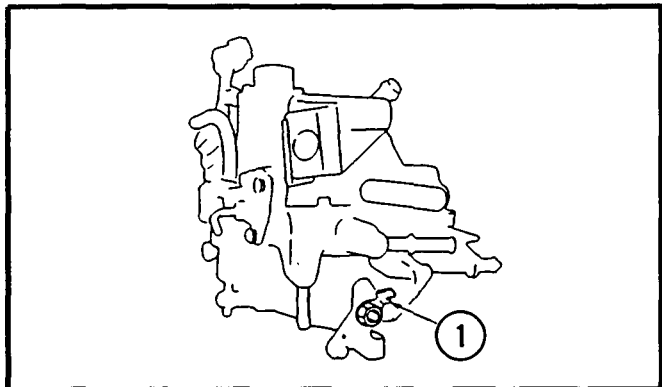

Figure 28.
2. Adjust by bending the adjusting lever. See Figure 28.